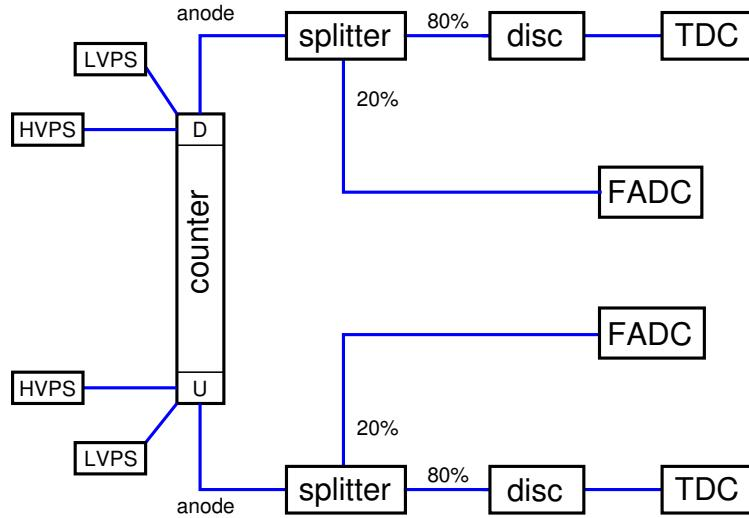

Figure 5: Block diagram for the CTOF system showing the layout of the readout electronics and power connections for a single counter.
A block diagram of the readout electronics and power connections for one representative counter of the CTOF system is shown in Fig. 5. The PMT anode outputs are connected to one of two UVa 80-20 splitter boxes. The 80% output goes to an Ortec 935 NIM CFD and then to a CAEN 1290A 25 ps LSB VME TDC. The 20% output goes to a JLab 250 MHz VME flash ADC. The high voltage (HV) power supply for the CTOF counters is a CAEN SY1527 mainframe outfitted with four negative polarity 24-channel A1535N modules that is shared with the HTCC system and several beamline devices. The CTOF HV modules occupy slots #0 to #3 in the mainframe. Fig. 6 shows the locations of the CTOF electronics and power supplies in the electronics racks on the beam left side of Space Frame Level 1. Note that the CTOF magnetic shields include compensation coils powered through a dedicated low voltage system (LVPS). However, the coils are not used in nominal beam operations for CLAS12.